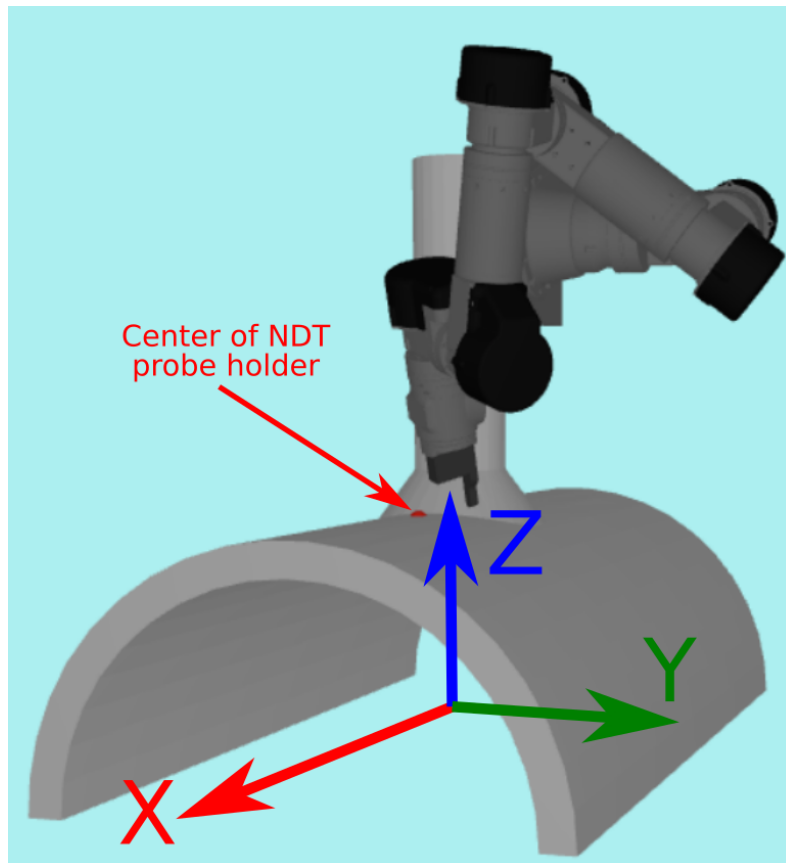

Fig. 3: NDT probe position and corresponding reference frame
1. **Robot NDT probe position** (center of universal joint of the NDT probe holder - red dot in Fig. 3)